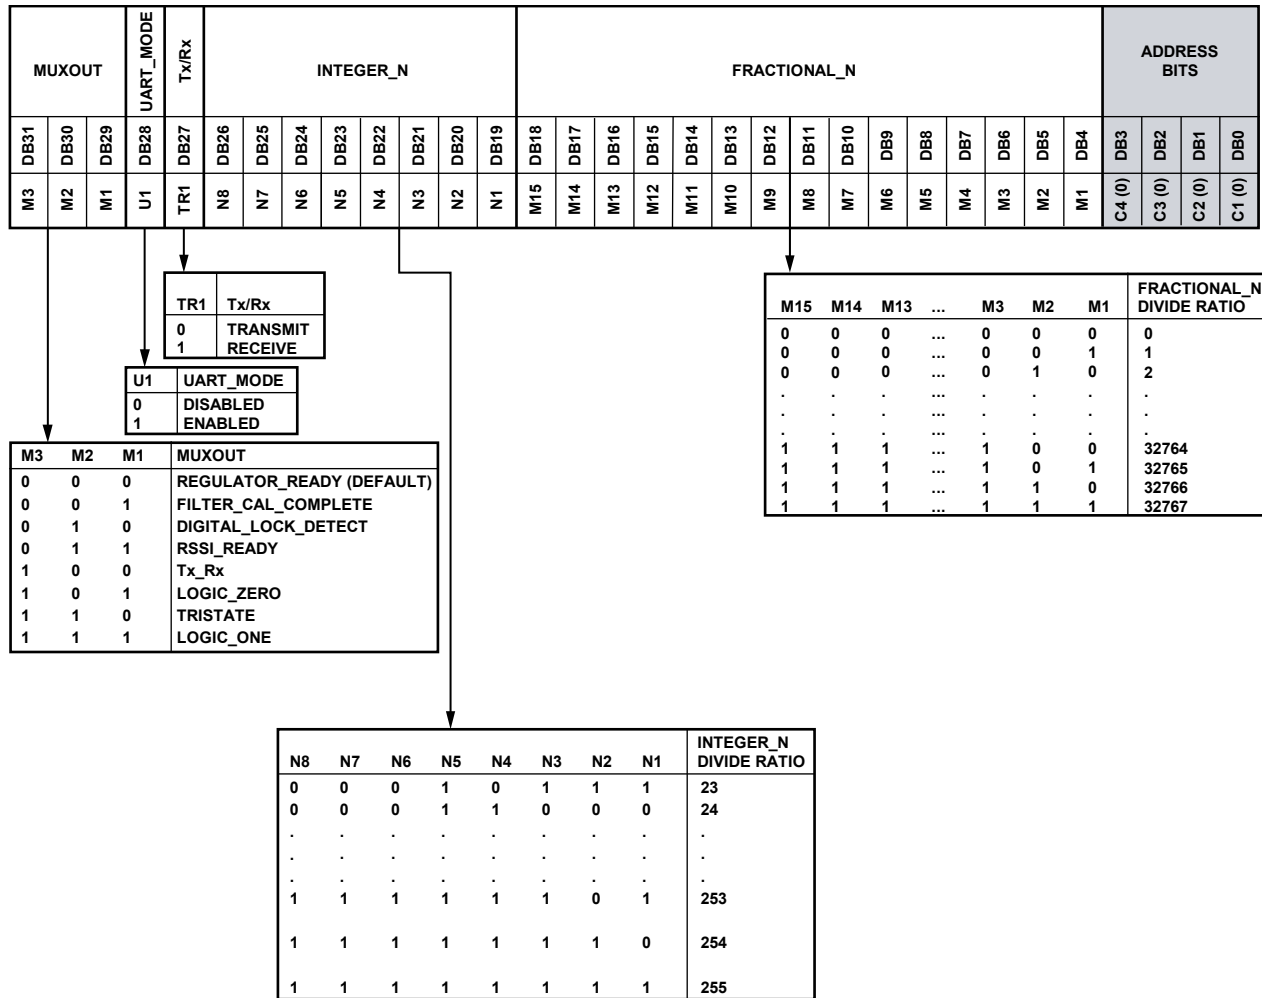

Figure 63. Register 0—N Register Map
- FILTER_CAL_COMPLETE in the MUXOUT map in Figure 63 indicates when a coarse or coarse plus fine IF filter calibration has finished. DIGITAL_LOCK_DETECT indicates when the PLL has locked. RSSI_READY indicates that the RSSI signal has settled and an RSSI readback can be performed.